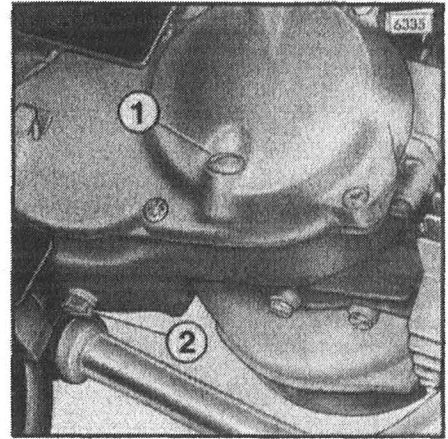

Fig. 1
- 2) Remove the oil filling plug (figure 1/1) and oil drain plug (figure 1/2).